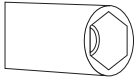

Figure-8
1. Please use driver with special head for removed and install nozzle as (Figure-8)